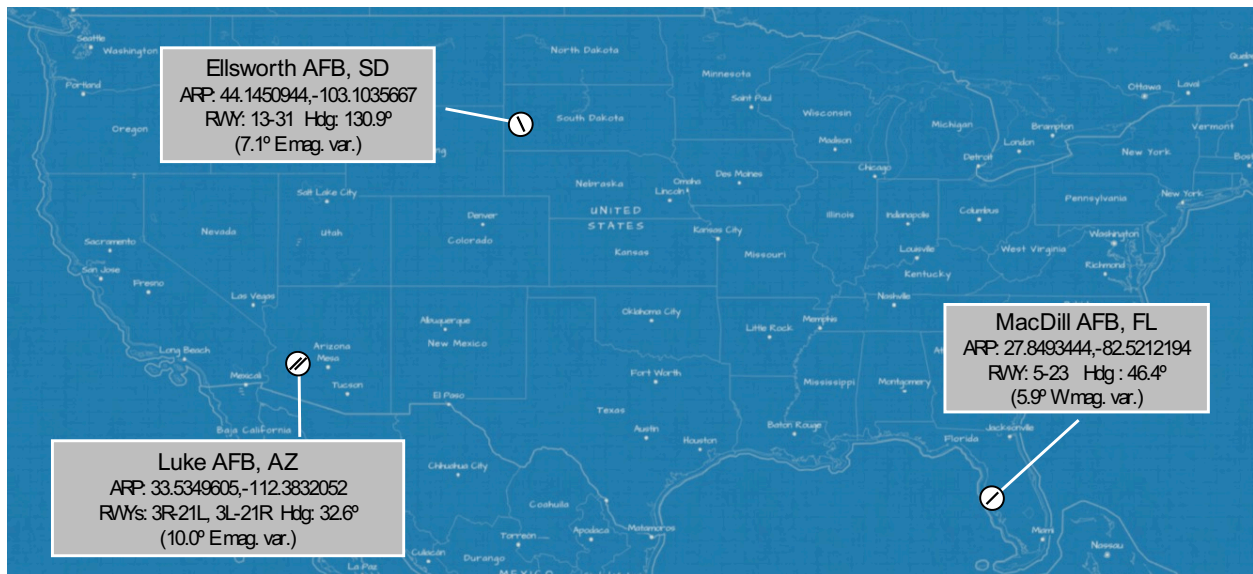
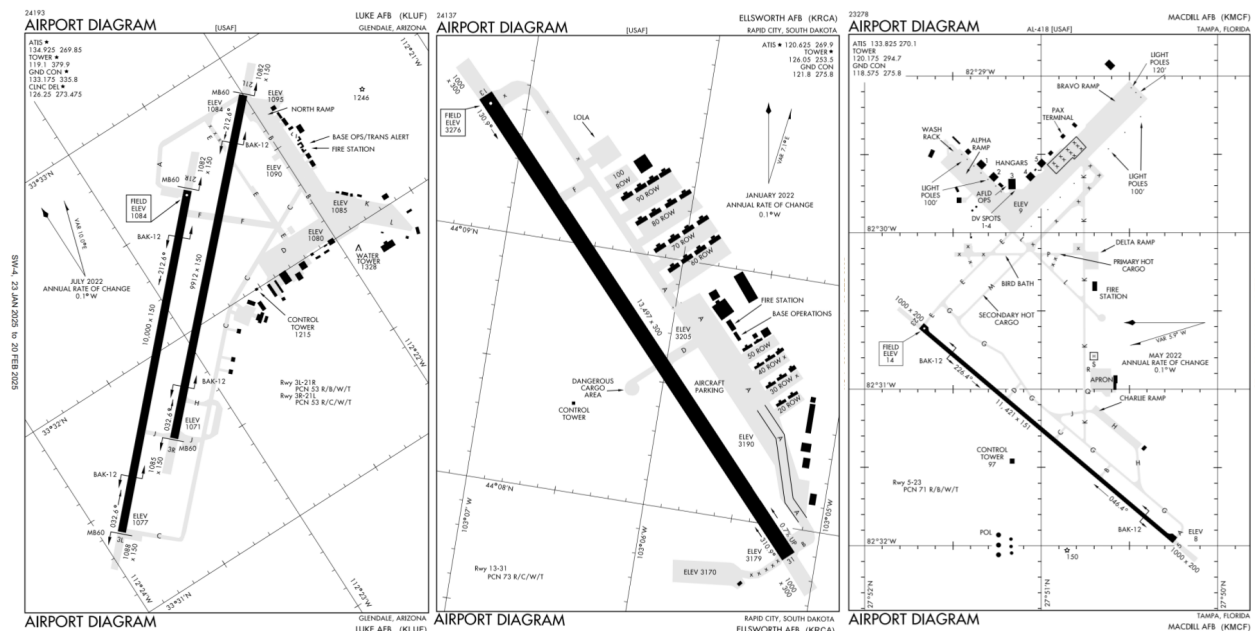
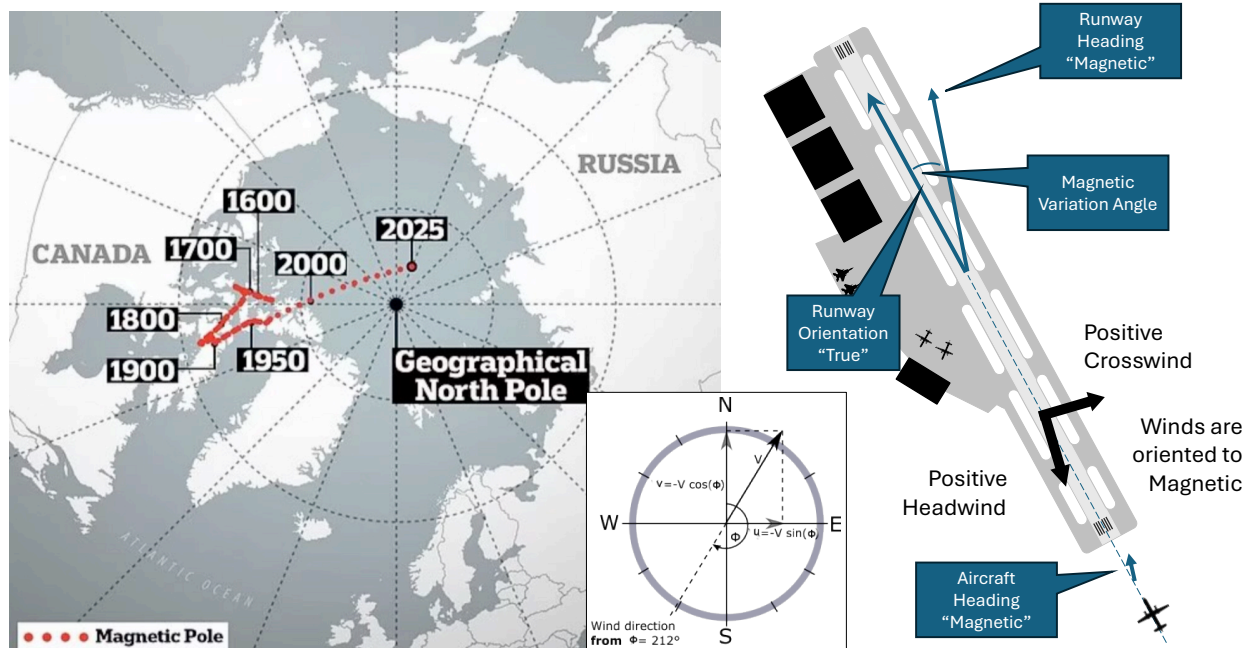
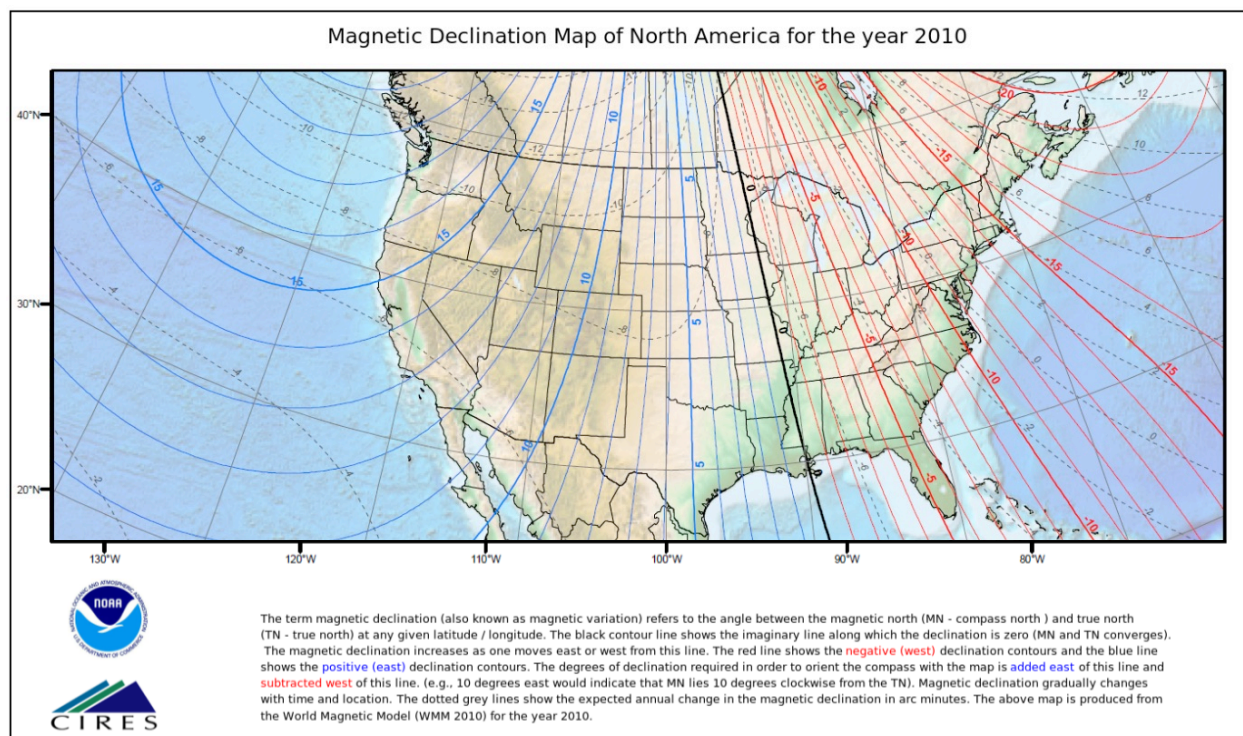

Figure 4. Airport Locations for Question 3 in both Set 3.5 and Set 3.6
Figure 5. Airport Diagrams for Set 3.6 Question 3
Figure 6. Magnetic North vs. True North Orientation.
Figure 7. US Map of Magnetic Declination in 2010.
- Geographic area: Locations at Air Force Bases (Figure 4)
- Search for two (2) datasets, one with northward near-surface winds, and the other with eastward near-surface winds. Use a time resolution of 3-hr and the finest spatial grid resolution possible.
- Determine the northward and eastward winds for the month of January 1950 using the closest grid point in each data set to the Airport Reference Points (ARPs) shown in Figure 4.
In this question you will be plotting histograms of 3-hour headwinds and crosswinds in knots from 1 Jul 2019 to 30 Dec 2019 inclusive, for each airport with respect to the listed runways in Figure 4. Note that the runway headings listed in Figure 4 and Figure 5 are shown adjusted for magnetic variation and that times may remain in Zulu time. Figure 6 and Figure 7 illustrate the effect of magnetic variation on heading transformation. For the purposes of this exercise, assume that the magnetic variation for 2025 and 2019 are equivalent.